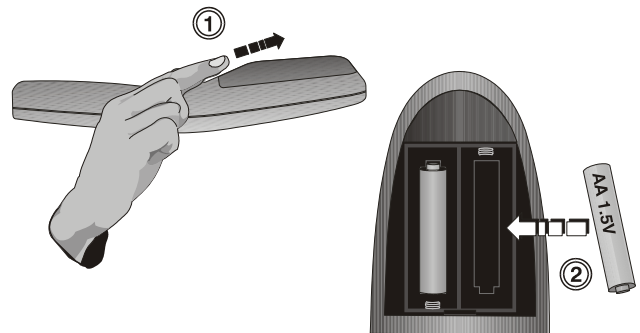

Figure 4.1. Replacing Batteries
1) Open the battery compartment at the backside of the keypad by placing your thumb in the oval depression and sliding the cover out about ½ inch. See Figure 4.1. Remove the old batteries and properly discard. Wait a minute or two.